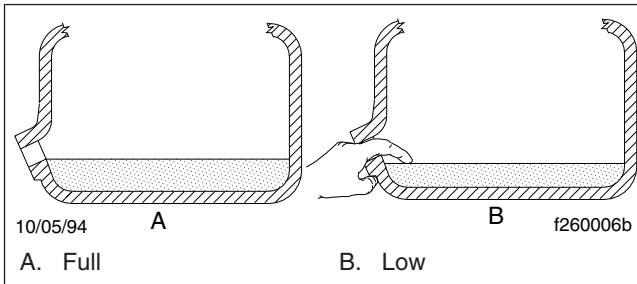

Fig. 8, Mercedes-Benz Transmission Fluid Level Checking
1. Add transmission fluid until it is level with the lower edge of the fill opening. See Fig. 8 for the correct level. See Table 9 for approved transmission lubricants and Table 10 for lubricant capacities.